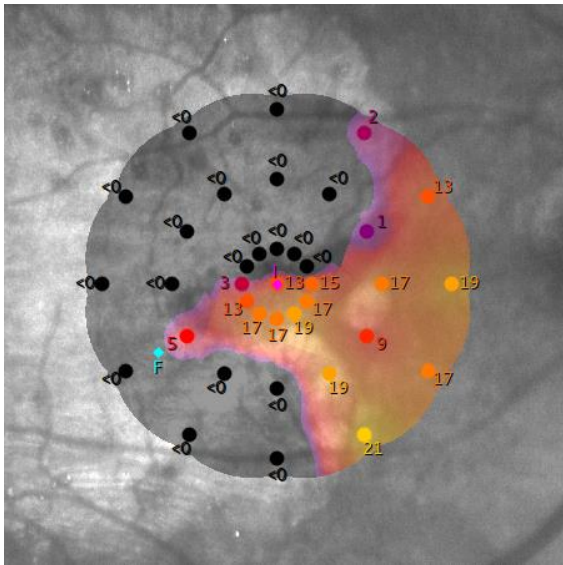
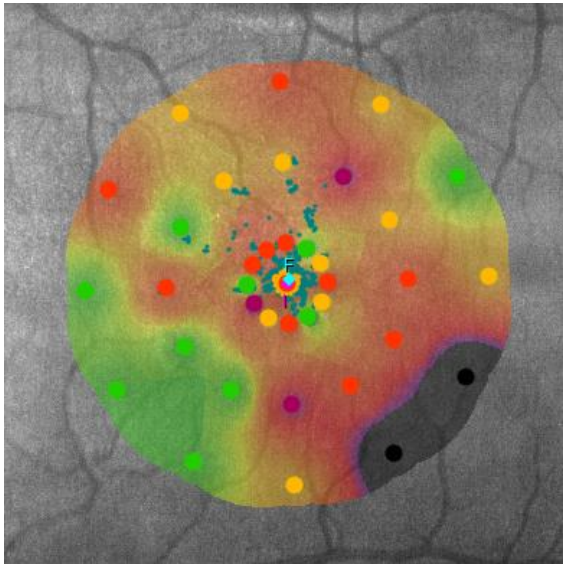
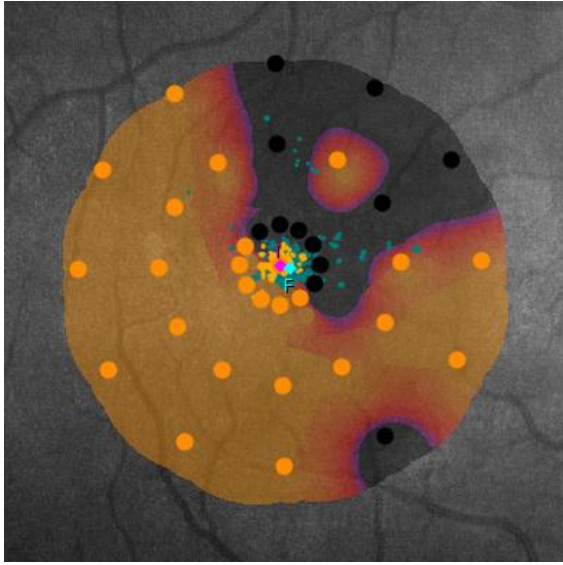

Fig. 52 – Interpolated sensitivity map (4-2 strategy)
Fig. 53 – Interpolated sensitivity map (4-Levels-Fixed strategy)
Fig. 54 – Interpolated sensitivity map (Scotoma Finder strategy)
- Stimuli and related threshold (or supra-threshold) in dB, where color scales are the ones shown during the test and illustrated in paragraph 8.4.16; it is also possible to view the interpolated sensitivity map (see Fig. 52, Fig. 53, Fig. 54), a map representing the sensitivity on each point of the retina using the information coming from the nearby stimuli;
- Display stimuli and the corresponding threshold values / display stimuli and interpolated sensitivity map (see Fig. 52) / disable display of stimuli / display stimuli IDs [preceded by "#"] (4 options)